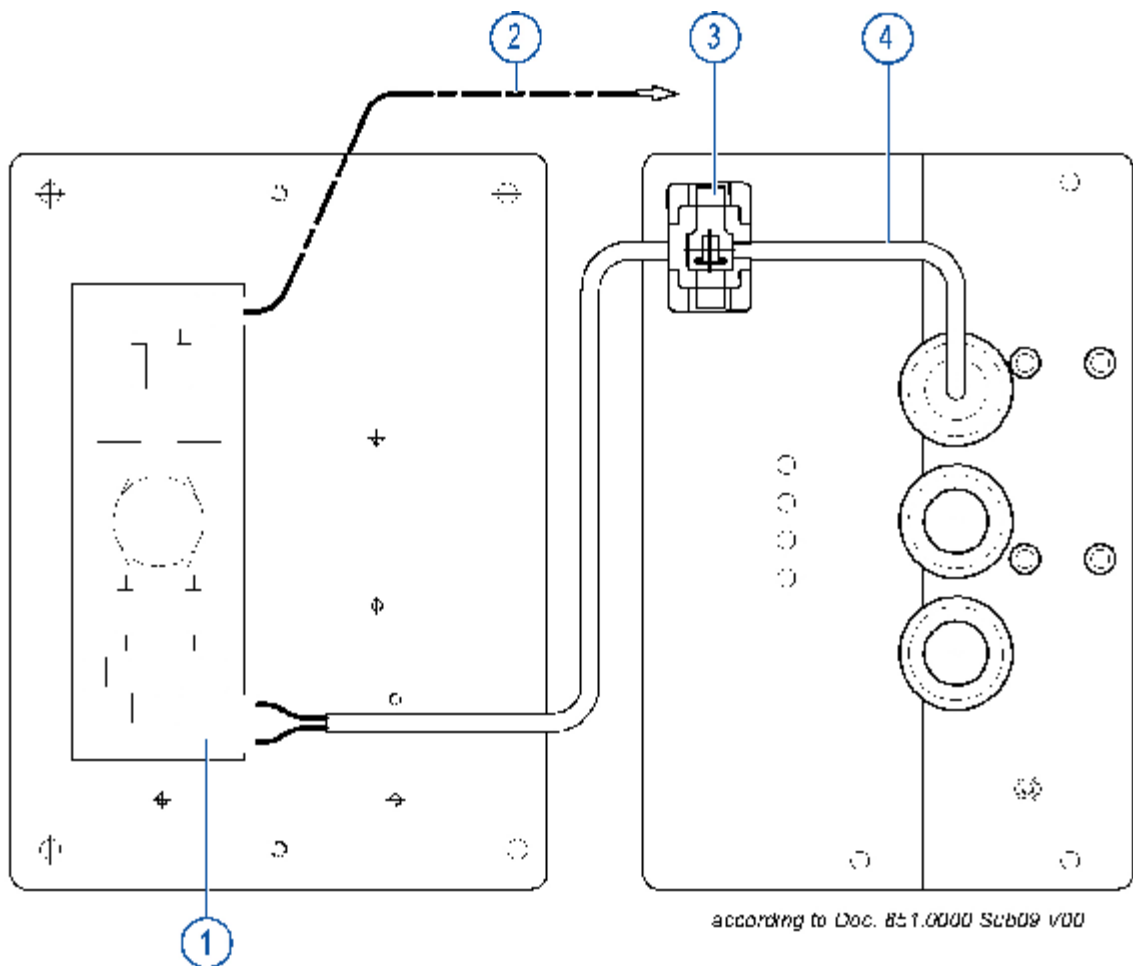

Figure 8: Network connection with unshielded cable connection
- 1 Insert the network cable connector into the open input port of the modular coupler, see Figure 8.